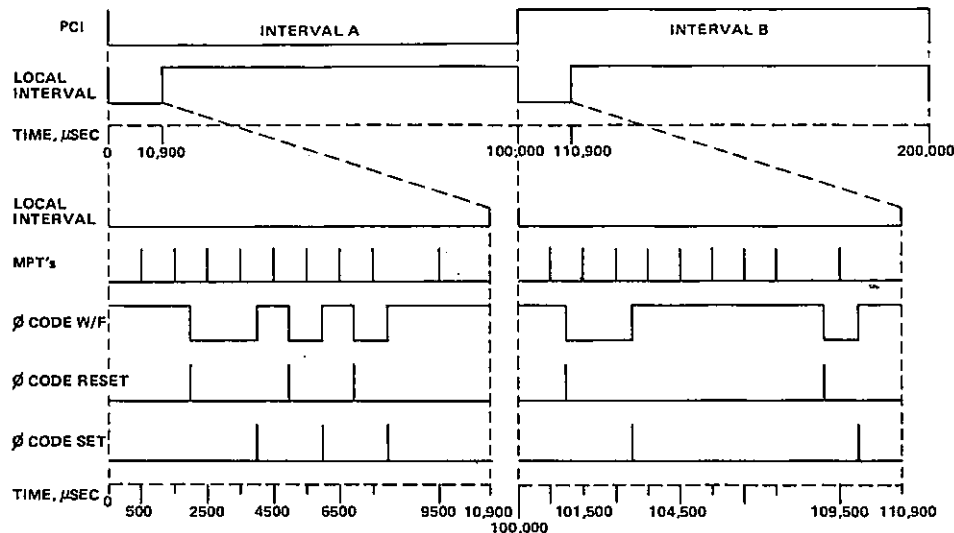

Figure 4.1. Master Station Time-Ladder Diagram
4.4 Time-ladder Diagrams. Figures 4.1 and 4.2 are the time-ladder diagrams for master and secondary stations, respectively. The signals are received by the TCS equipment from the Loran Timing Set(s). The Local Interval starts 500  $\mu$ sec before the first MPT and ends 1,400  $\mu$ sec after the last MPT. The master station's Local Interval is 10,900  $\mu$ sec long, and the secondary station's Local Interval is 8,900  $\mu$ sec long. Phase Coding of the MPTs occur between the Phase Code Reset (starts the negative  $\emptyset$  code) and Phase Code Set (starts the positive  $\emptyset$  code) pulses.